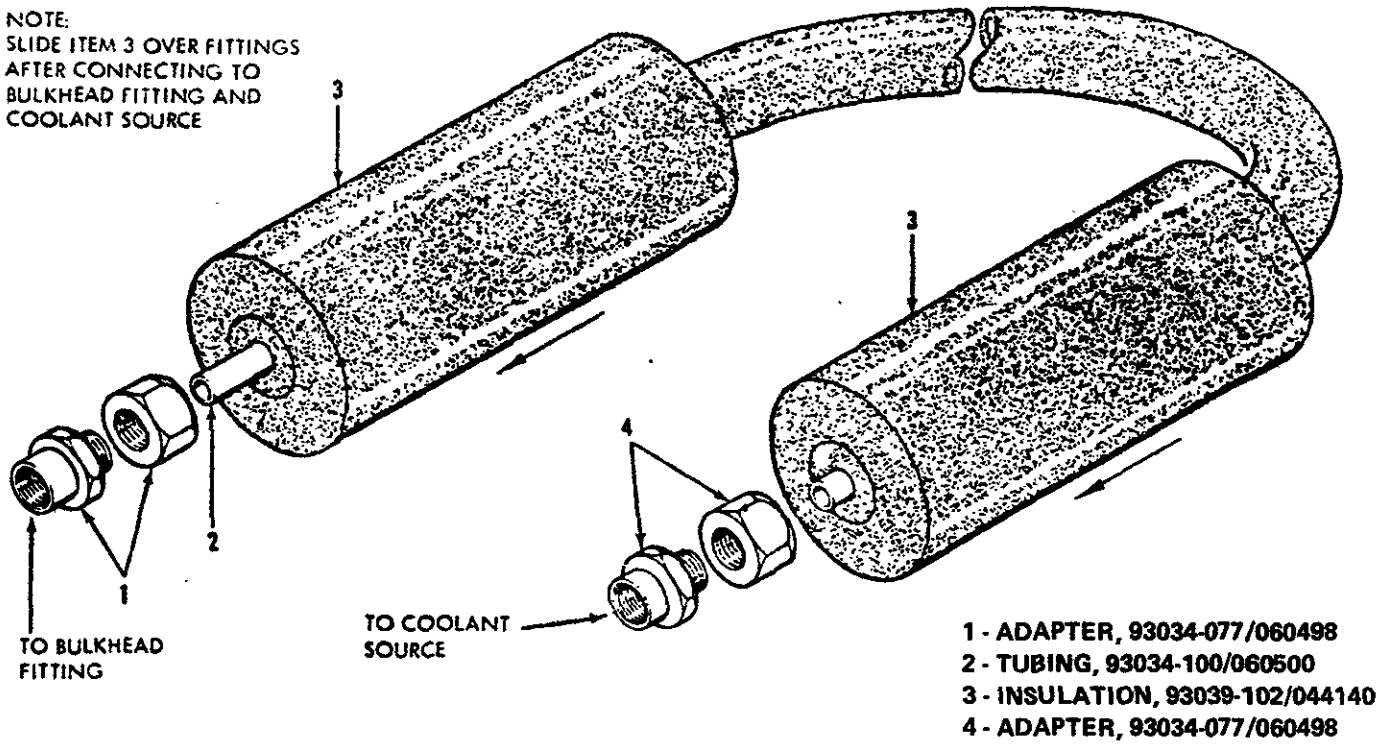
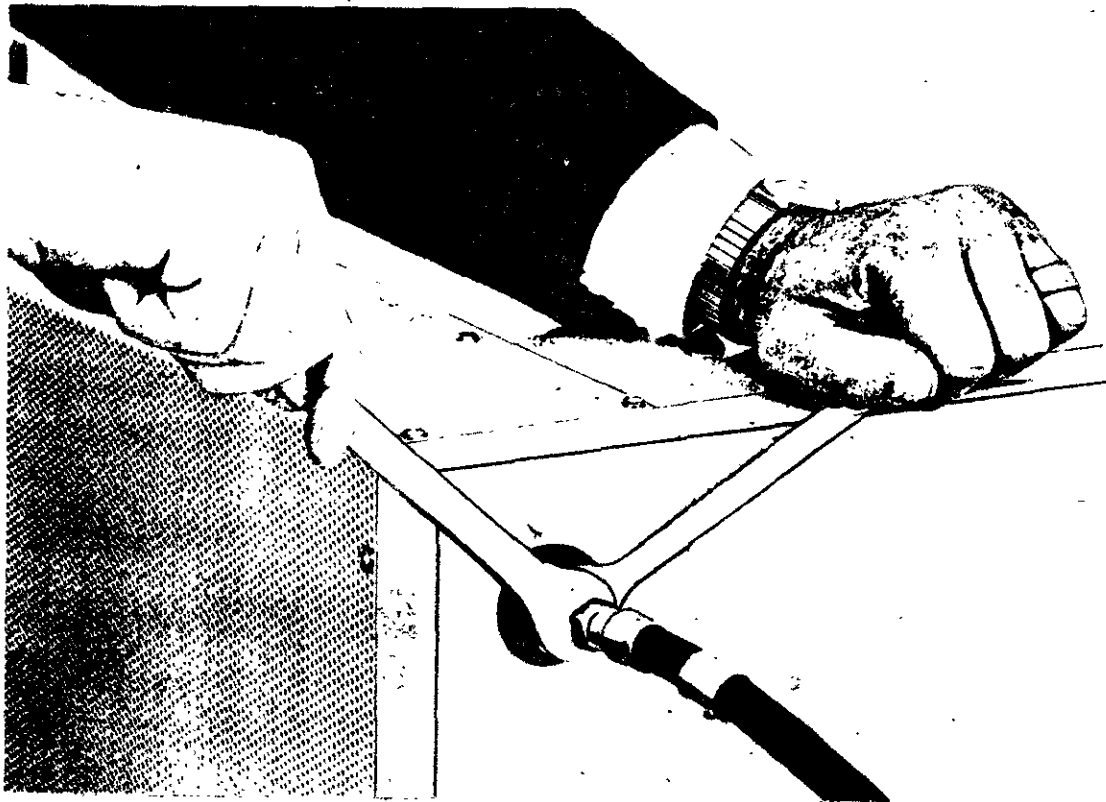
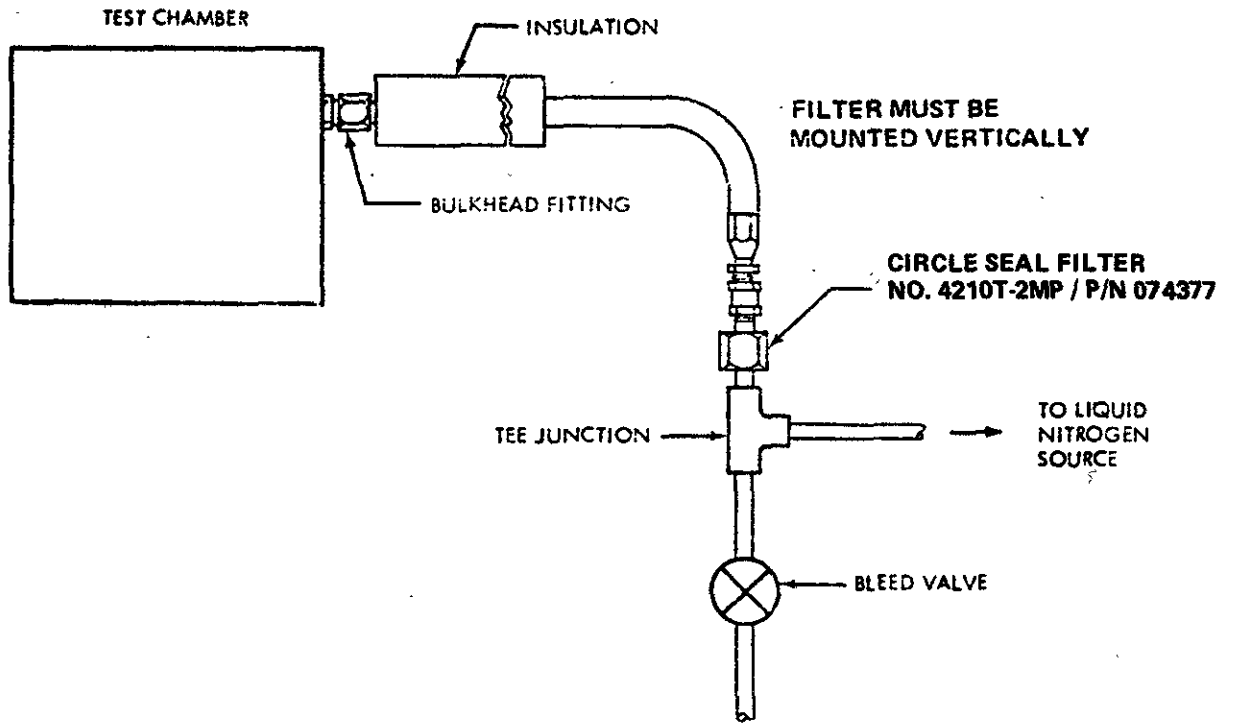

Figure 4. Typical Installation (Removal) of Coolant Hose to (from) Bulkhead Fitting
Figure 5. Liquid Nitrogen Hose Assembly
Figure 6. Liquid Nitrogen Ice Filter (Recommended)
For extensive use at low temperatures, it is recommended that two or more liquid CO2 cylinders be used in parallel as shown in Figure 2. This will increase operating time between cylinder changes. Install the liquid CO2 cylinder(s) as follows: (See Figures 4 and 5.)
5. Connect the threaded fitting on the flexible hose to the threaded portion on the chamber bulkhead fitting. The bulkhead fitting must be held in place with a second wrench while the coolant hose is being attached to the bulkhead. See Figure 4.
The liquid nitrogen cylinder is connected to the test chamber by the hose assembly shown in Figure 5. To prevent ice crystals in the coolant line from entering the test chamber, an ice filter (optional) may be connected between the LN2 cylinder and the test chamber as shown in Figure 6. The ice filter eliminates ice crystals and prevents them from freezing up valves or intruding into the test chamber. The ice filter should be cleaned periodically by a reverse purge using dry nitrogen. Install the LN2 cylinder as follows:
3. Connect the cylinder to the test chamber as indicated. The large foam insulation sleeves (item 3 in Figure 5) are pushed over the fitting after the connections have been made. Use a second wrench as shown earlier in Figure 4 to prevent the bulkhead fitting from turning when the connection is being tightened.